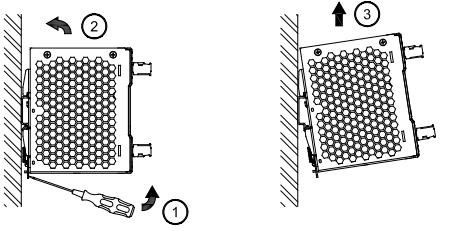

Figure 3
4. Dismounting (Fig. 3)
To uninstall, pull or slide down the latch as shown in Fig. 3. Then slide the PSU in the opposite direction, release the latch and pull out the PSU from the rail